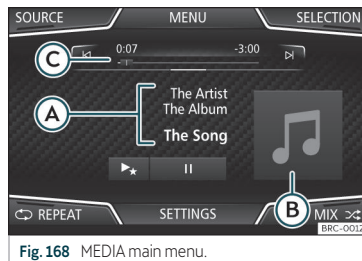

Fig. 168 MEDIA main menu.
- Press the infotainment button **MEDIA** to open the *Radio* main menu >>> Fig. 168.
The media source being played is indicated on the dropdown list when pressing the **SOURCE** function button >>> Fig. 168.